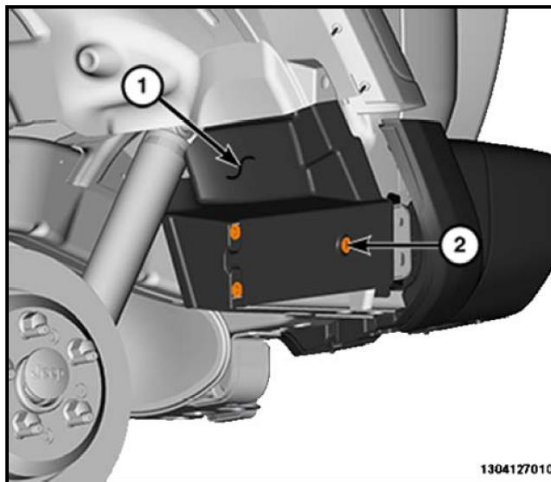

Figure 1
- B. Remove the three screws (2) and remove the closeout panels (1) shown in Figure 1.